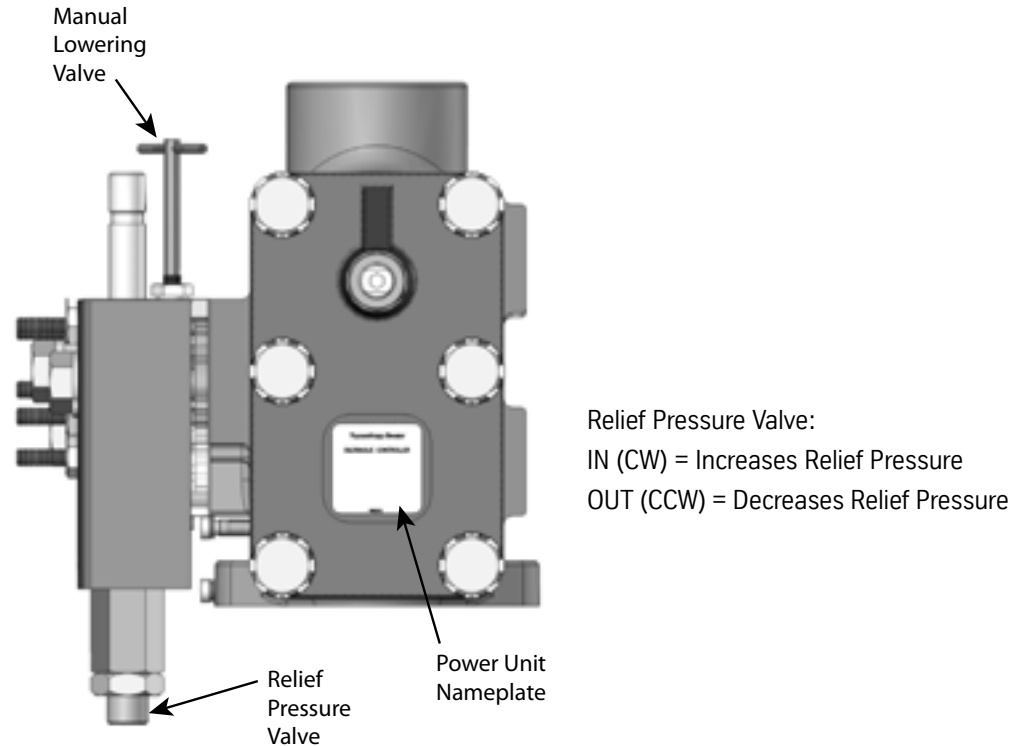

Figure 4 - Relief Pressure Adjustment
3. Adjust the relief valve to relieve at the pressure indicated on the power unit nameplate. See Figure 4 on page 12.